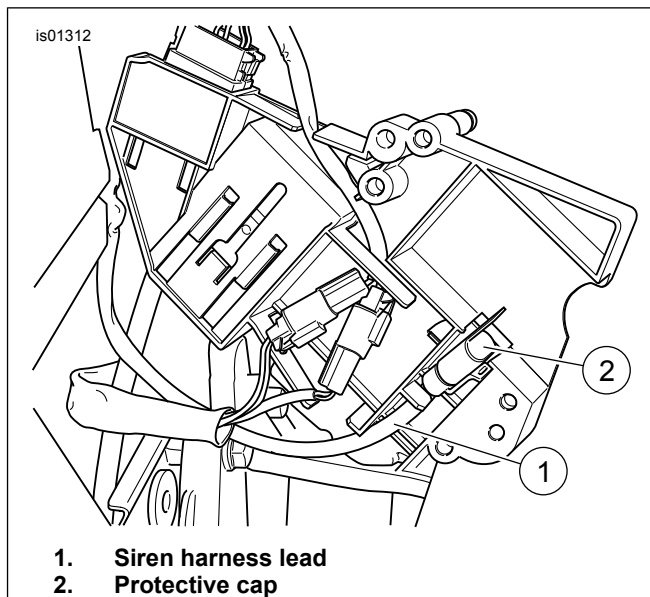

Figure 11. Siren Wire Harness (2002-2007 FL Touring)
3. See Figure 11. Remove the siren harness lead (1) from the back of the electrical bracket. Take the protective cap (2) off the security siren connector [142B].